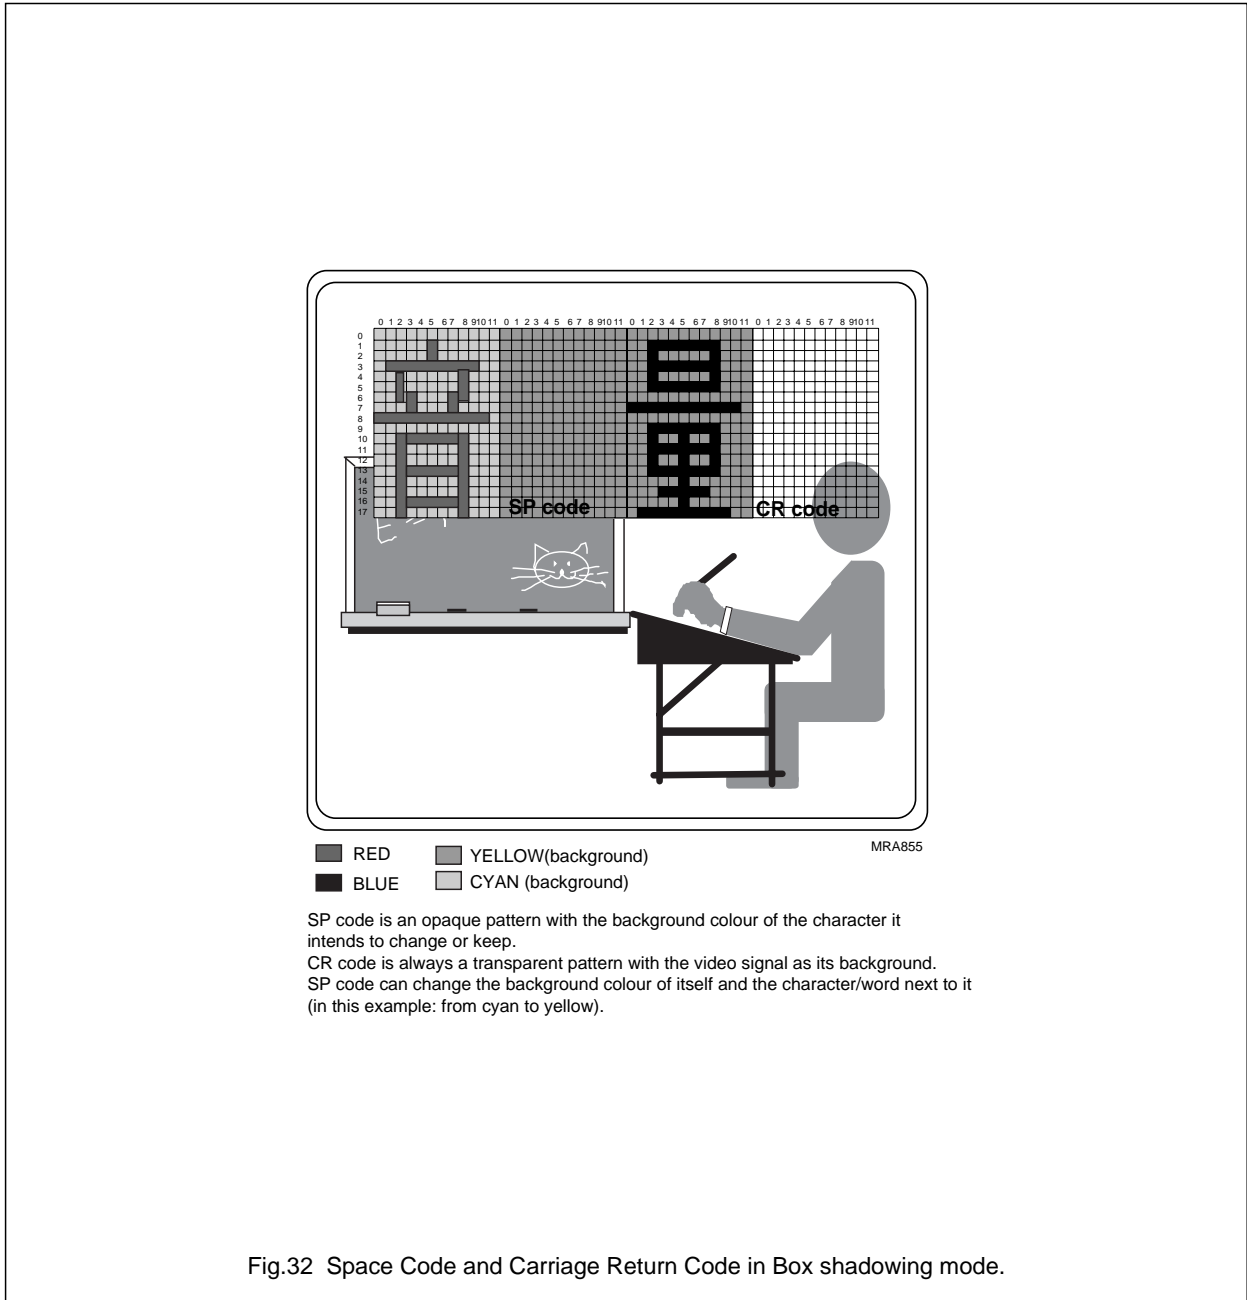

Fig.32 Space Code and Carriage Return Code in Box shadowing mode.
- Mode 2: the Box shadowing mode. The Space Code is displayed as an opaque pattern with a selected background colour. This will also be the background colour of the character following the Space Code. The Carriage Return Code however, is displayed as a transparent (no bit) pattern superimposed on the video signal. This is shown in Fig.32.